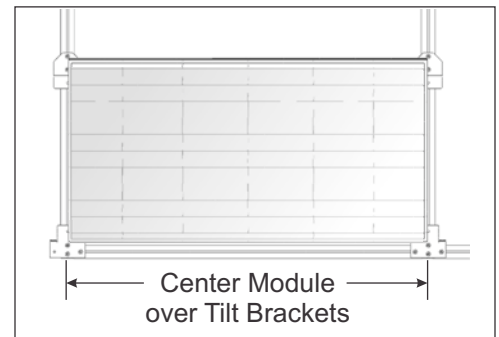

Figure 14-2: Centering the Module over the Tilt Brackets
- H. Using a tape measure, center the Module (from east to west) over the Tilt Brackets. Keep its frame pushed against the Front Tilt Bracket Tabs. (See Figure 14-2)